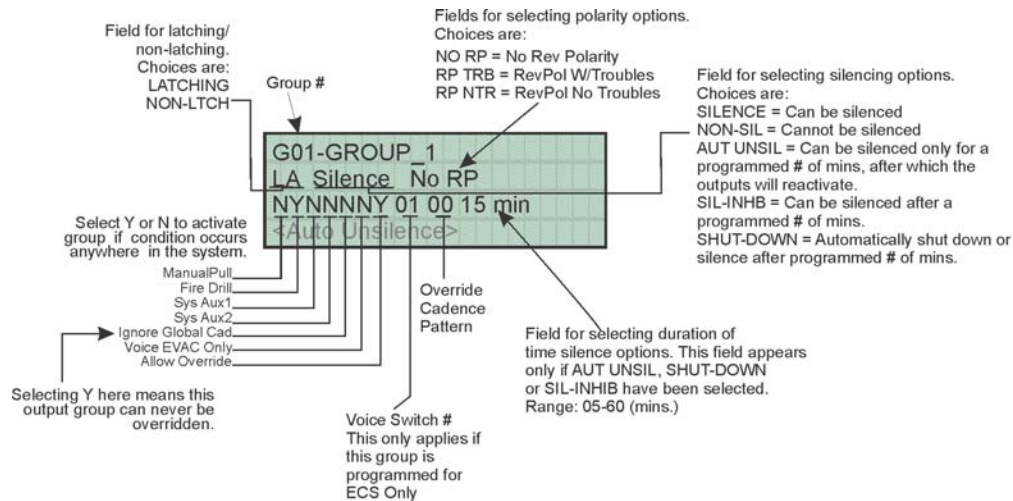

Figure 7-9 Group Properties Screen Programming Options
- Define output group type as voice or non-voice. These options are for ECS Only. See Figure 7-9.
AUT UNSIL	Auto Unsilenced. If this option is selected, the output group can be silenced for a programmed time-frame. If the condition that caused the output to activate has not cleared during the time-frame, the output reactivates. If you select this option, select the time-frame in the delay field. Range is 01-60 minutes. (See Figure 7-9 for location of field.)
SIL-INHIB	Timed Silence after Inhibit. If this option is selected, the output group must be audible for a programmed number of minutes before it can be silenced. If the condition that caused the output to activate has not cleared during the time-frame, the output can be silenced. If you select this option, select the timeframe in the delay field. Range is 01-60 minutes. (See Figure 7-9 for location of field.)
SHUT-DOWN	If this option is selected, the output group will automatically silence (shut down) after the programmed time period. If you select this option, select the timeframe in the delay field. Range is 01-60 minutes. (See Figure 7-9 for location of field.)
You can select whether an output group will respond to various system-wide occurrences. (See Figure 7-9 for location of this field).